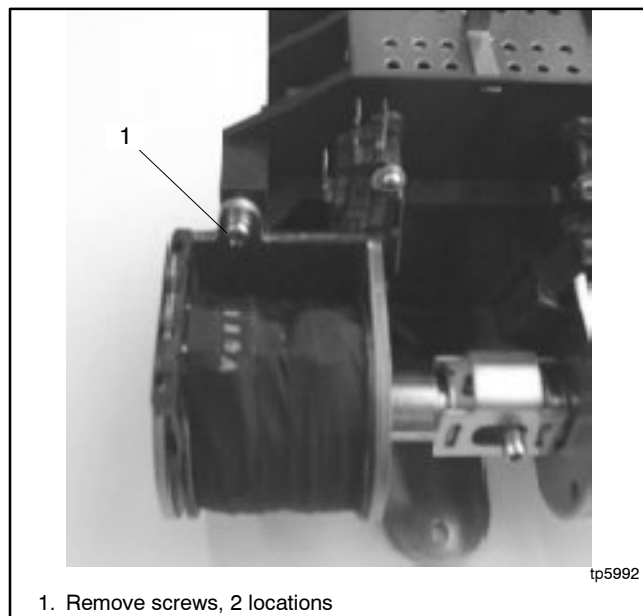

Figure 6-1 Solenoid Assembly, Model R220, Typical
1. Remove two mounting screws from the assembly. See Figure 6-1.